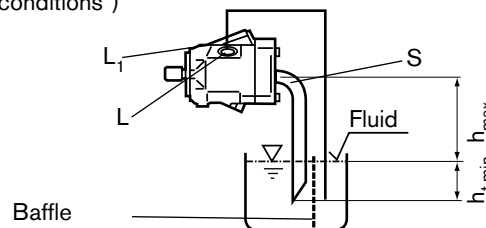

Fig. 4
b) If the min. fluid level is even with or below the top of the pump: pipe "L" and "S" acc. to fig. 4, "L₁" plugged. (see also limit of conditions)
a) Mounting above the tank: see fig. 4. (see also "Limit of conditions")